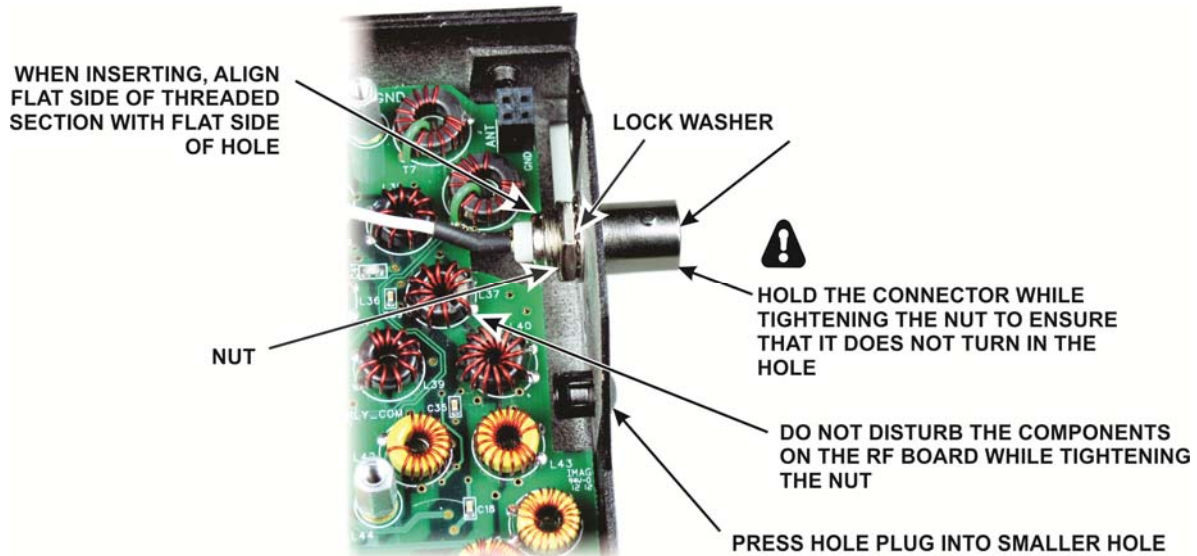

Figure 39. Installing the Antenna Connector and Hole Plug.
- ☐ Install the hole plug and the antenna connector as shown in Figure 39. Since there is little space, start the washer and nut on the BNC connector threads while the connector is only partially inserted in the hole.